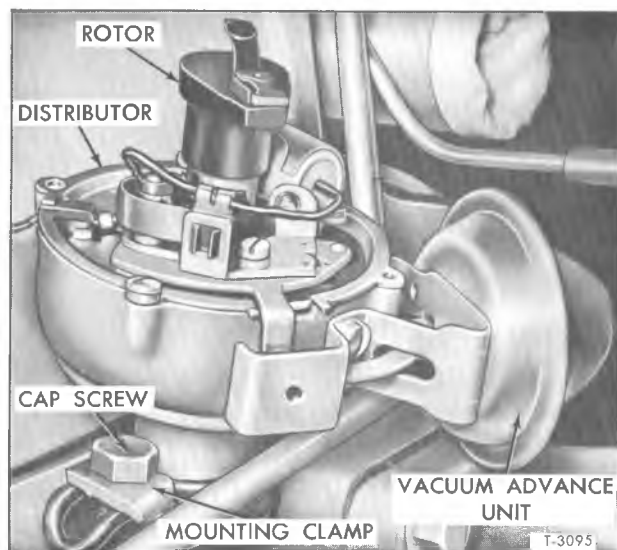

Figure 4—Distributor Installed (with Cap Removed (In-Line Engine) (Typical)
With timing light connected to No. 1 spark plug and with engine idling (500 rpm max.) loosen mounting clamp cap screw at base of distributor (fig. 4) and rotate distributor as necessary to synchronize flashes with timing mark when mark is
2. If knock is evident, loosen the distributor mounting clamp cap screw (fig. 4 or 5) and turn distributor housing clockwise to retard spark until knock is eliminated.
Distributor used on In-line engines is mounted on right side of engine and is driven by the engine camshaft by spiral cut gears. A gasket is used between flange on distributor housing and cylinder block. The distributor is held in place by a mounting clamp and cap screw (fig. 4). Lower end of distributor shaft is tongued and engages a slot in upper end of oil pump drive shaft to drive the oil pump.